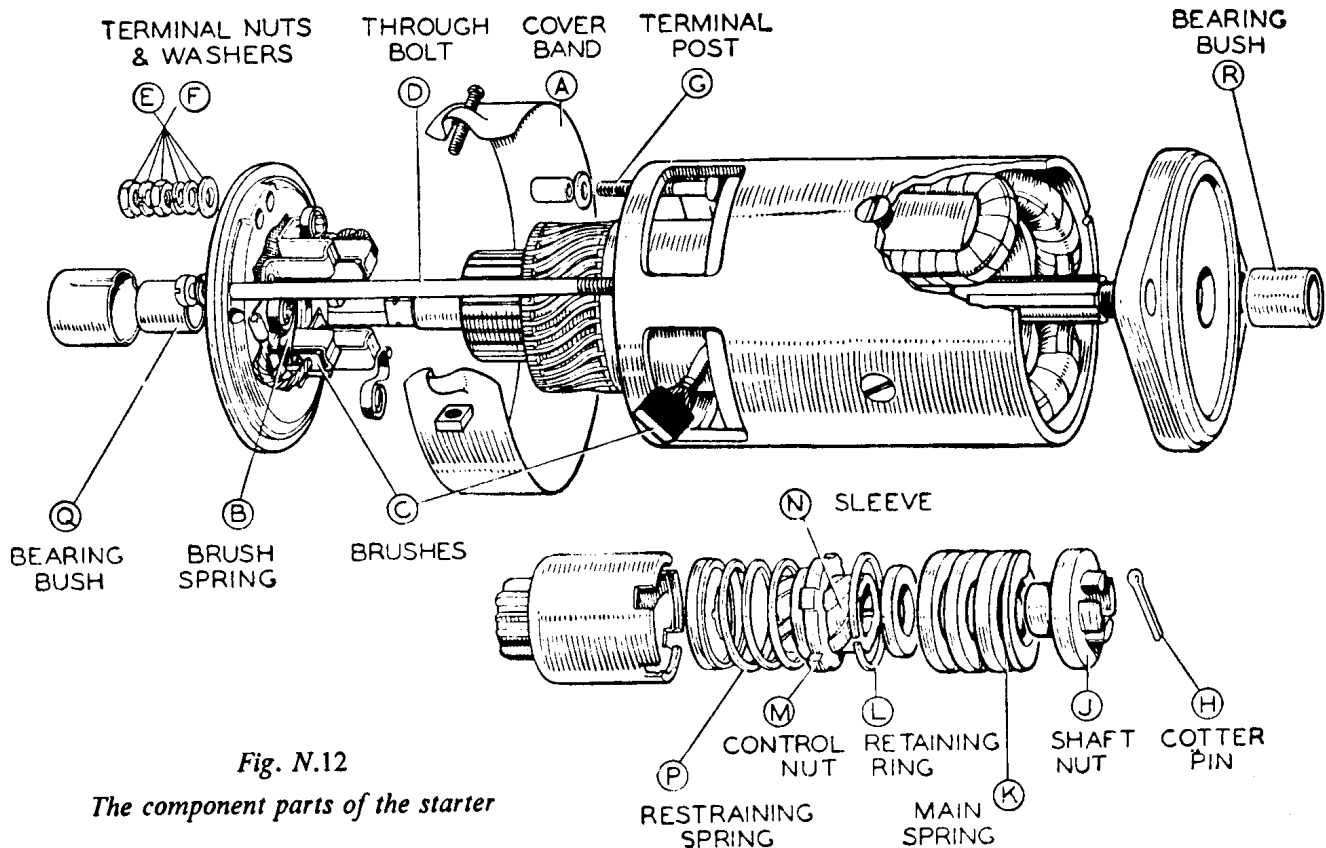

Fig. N.12
- (2) If any parts are worn or damaged they must be renewed.
- (3) Remove the cotter pin (H) (Fig. N.12) from the shaft nut at the end of the starter drive. Hold the squared end of the starter shaft at the commutator end by means of a spanner and unscrew the shaft nut (J).
- (4) Lift off the main spring (K) (Fig. N.12) and remove the retaining ring (L).
- (5) The control nut (M), sleeve (N) and restraining spring (P), will now slide off.
- (6) Withdraw the splined washer from the armature shaft and remove the pinion and barrel assembly.